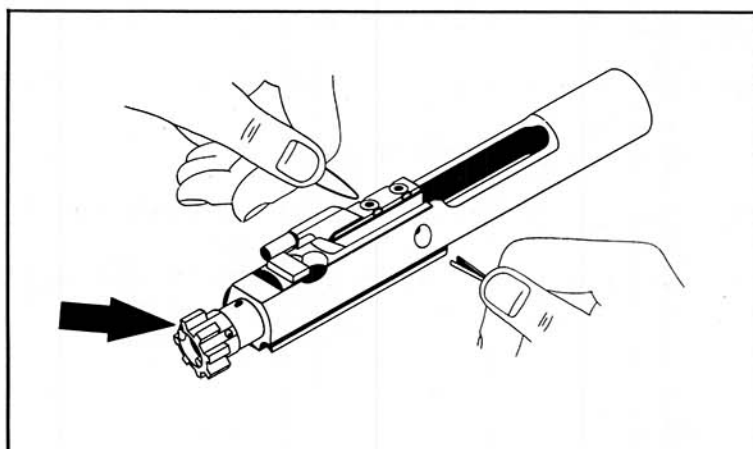

Figure 2-4 Withdraw Retaining Pin
- e. Remove the retaining pin from the bolt carrier and slide the firing pin out of the rear of the bolt carrier, see Figure 2-4.